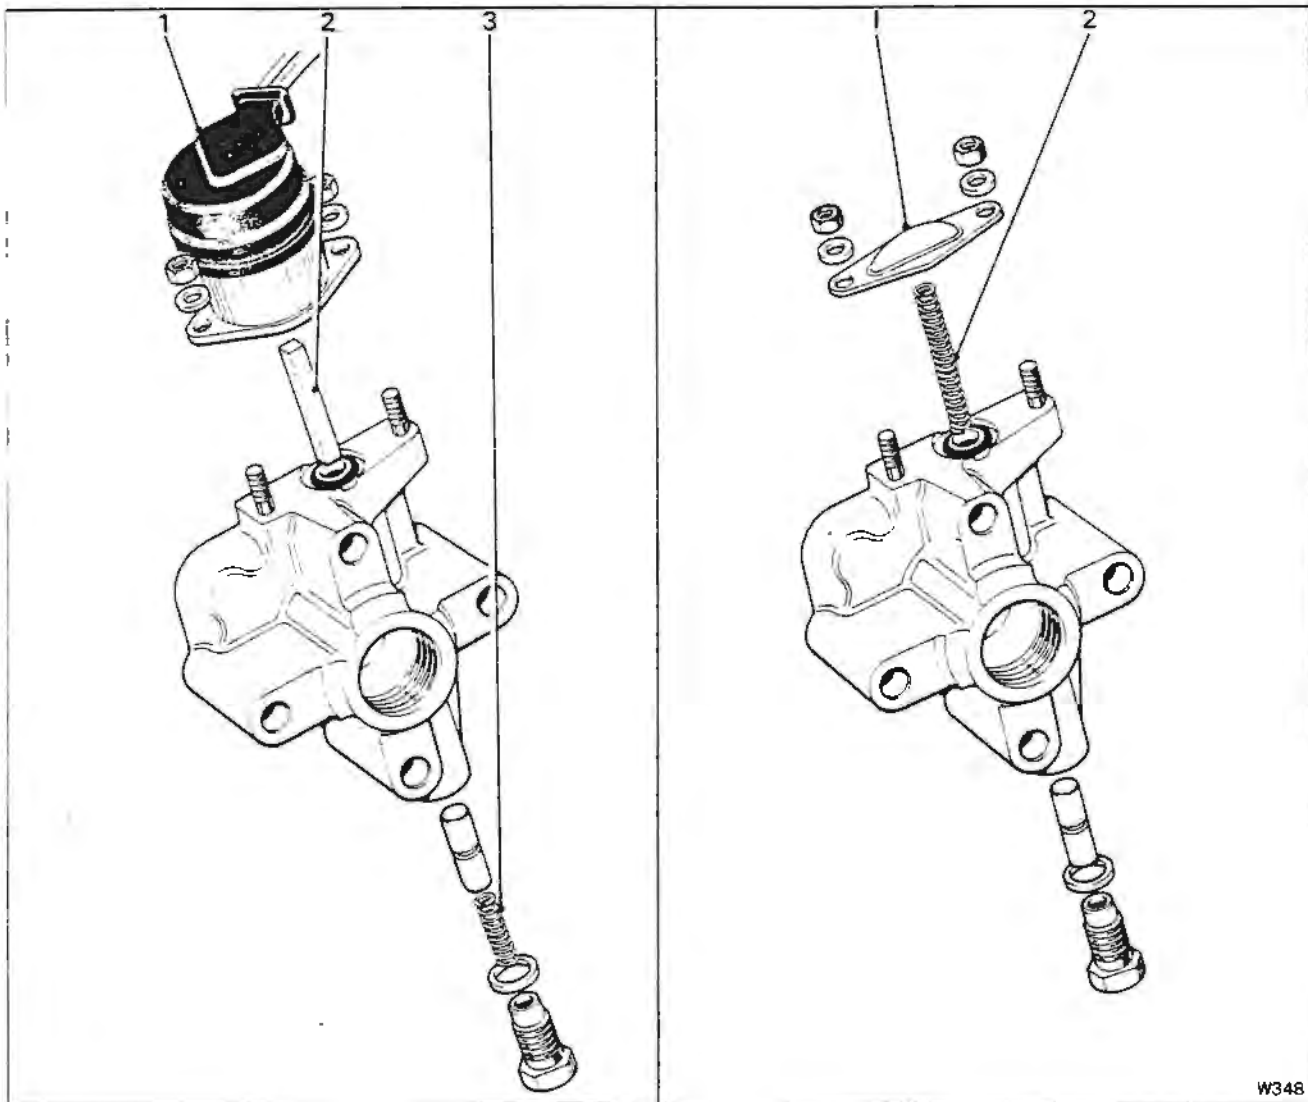

FIG 1 EARLIER ASSEMBLY
- 4     Remove the ride control solenoid (see Fig.1)
- 5     Remove the solenoid spring (see Fig.1)
- 6     Remove the slow leak push rod (see Fig.1)